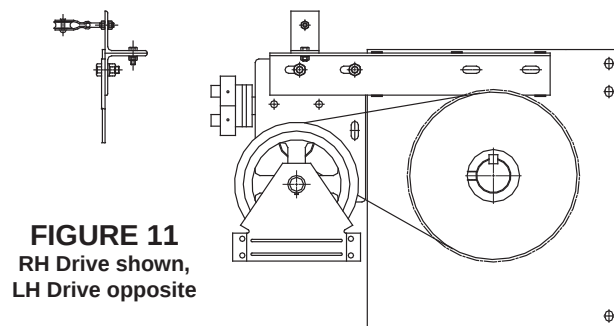

FIGURE 11
STEP 9 Install pulley and mounting angle on hoist mounting angle as shown in Figures 11 and 12. Push hoist lever arm toward hoist and rotate pocket wheel 1/2 turn until hoist lever arm is vertical and pocket wheel is engaged to turn the 12 tooth sprocket. Temporarily secure hoist lever arm in engaged position with twine. (Use nylon tie to attach Hoist Reset Tag (308186) to eyebolt on Pulley Mounting Angle.